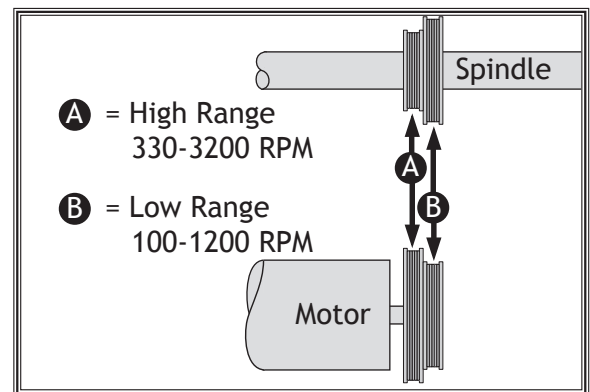

Figure 31. Speed range belt positions.
5. Reach into belt access cavity and roll belt onto desired set of pulleys, as shown in Figure 31.